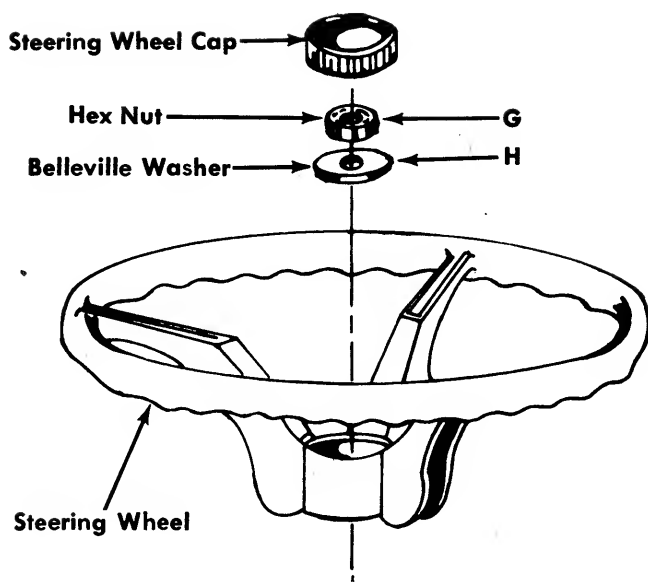

FIGURE 2. STEERING WHEEL ASSEMBLY
- Step 3. Secure with Belleville washer and hex nut. See figure 2.
- Step 4. Press the cap on the steering wheel by hand. See figure 2.